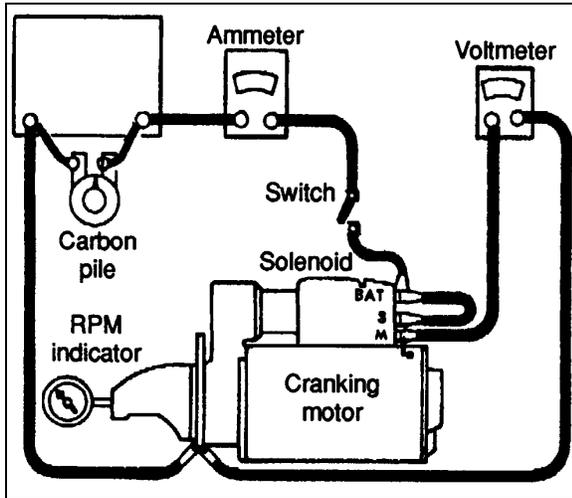

FIGURE 49: STARTING MOTOR NO-LOAD TEST 06084
overhaul. Make test connections to the starting motor as in figure 49.
and a variable resistance. Also connect a voltmeter as illustrated in figure 49 from the solenoid motor (M) terminal to the starter frame. A rpm indicator is necessary to measure armature speed. Proper voltage can be obtained by varying the resistance unit.